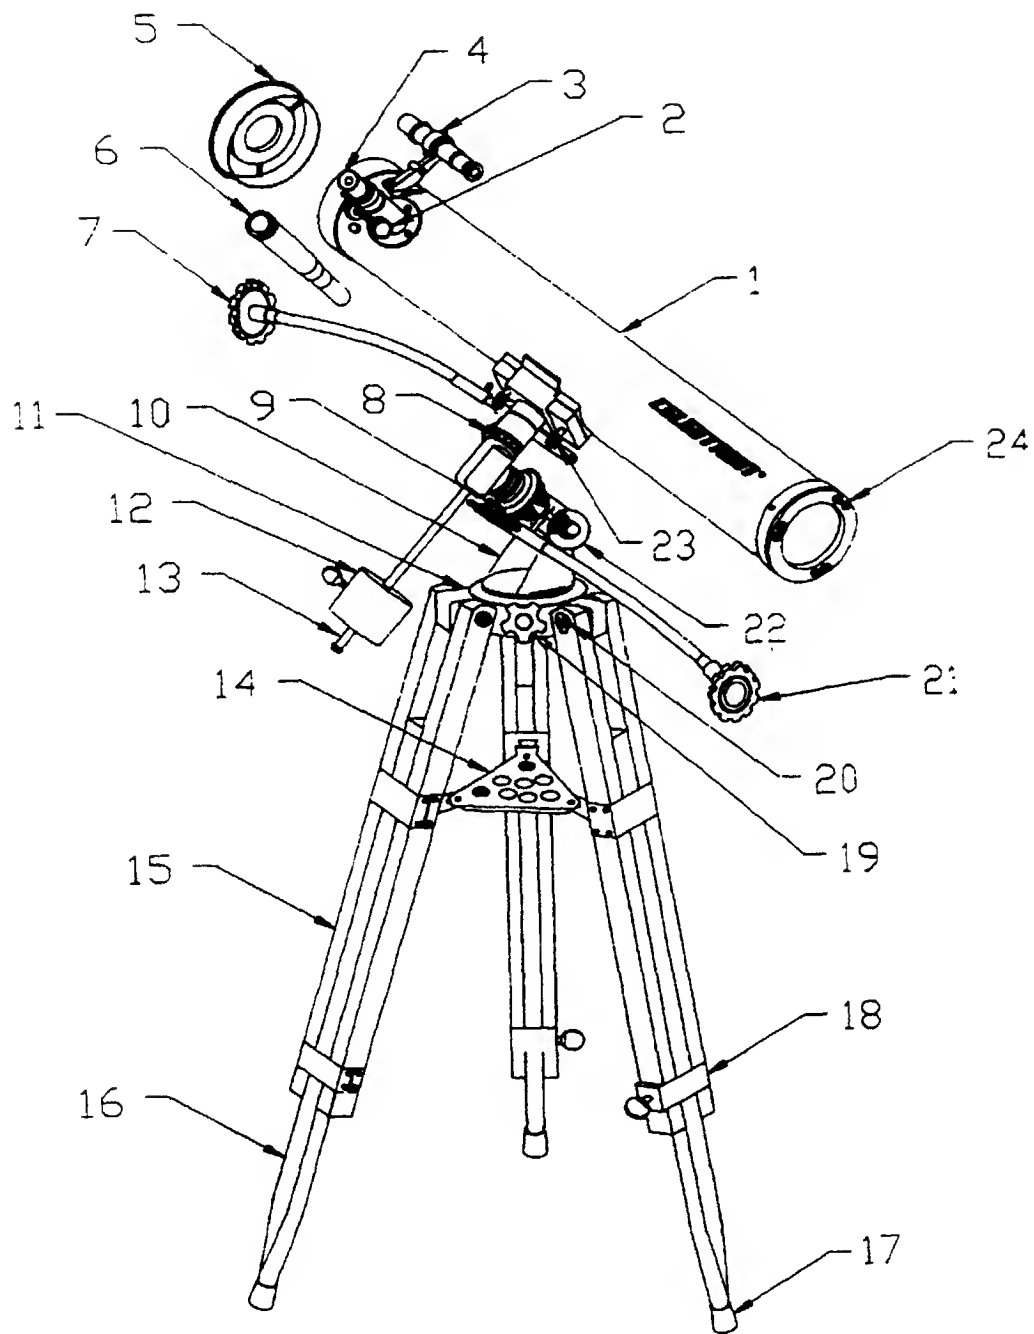

Figure 1
NOTE: Tripod and tube parts are the same as for the equatorial mount in Figure 1. Only those items that are different are labeled.
This manual covers both the equatorial mount models (see Figure 1) and the altazimuth mount models (see Figure 2). The altazimuth mount is the simplest and easiest type of mount to use with two motions—altitude (up and down) and azimuth (side-to-side). The equatorial mount is more expensive and contains setting circles and slow motion cables to make it easier to locate and track astronomical objects.
Please refer to Figure 1 (and the identifying parts list) as you assemble the telescope.
3. a) Attach the equatorial mount (#10) to the tripod as shown in Figure 1.
B. Before proceeding further, locate knobs #19 and #22 and tighten them finger tight after orienting the mount as illustrated in Figure 1 — for equatorial mounts only.
4. Slide the counterweight shaft (#13) through the counterweight (#12). Use the counterweight lock to lock the counterweight in place. By holding the counterweight in one hand, thread the counterweight shaft clockwise into the equatorial mount as shown in figure 1.
1. Remove the nuts from the tube mounting screws (#23). Put the bolts from the tube, as shown in Figure 1 (#23), into the bracket at the top of the mount and tighten the nuts.